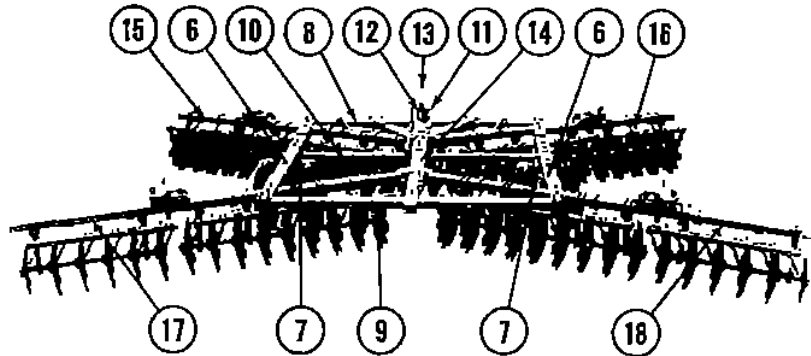

FIG. 13
5. Remove the bolts from both ends of the *Side Frame Bundle* (Item 6, Fig. 13) Bundle No. 201340. Spread the front and rear gang frame bundles (Items 2, 3, 4 and 5) by pushing the front gang frames forward and the rear gang frames towards the rear. Position the side frame members so that the wheel axle bearing (Item 7) is to the front and downward. Slide the open end of the side frame member over the front gang-tube approximately 53" from the gang connector cuff. Then slide the other end of the side frame over the rear gang tube. Close the front and rear bundle by pushing the front gang bundle backward and the rear gang bundle forward. Repeat this procedure on the other side.